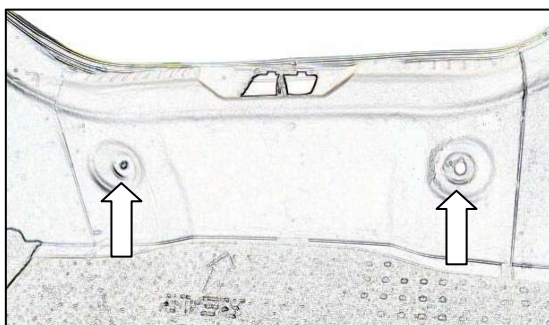

Figure 2
2. Remove the load floor cover and foam filler from the spare tire well. Carefully pry the 2 (two) plastic trim clips out of the rear trim sill. **See Figure 2.** Pull the lower edge of the sill trim toward the rear seats to release the clips, then pull up on the sill trim to remove from the vehicle.